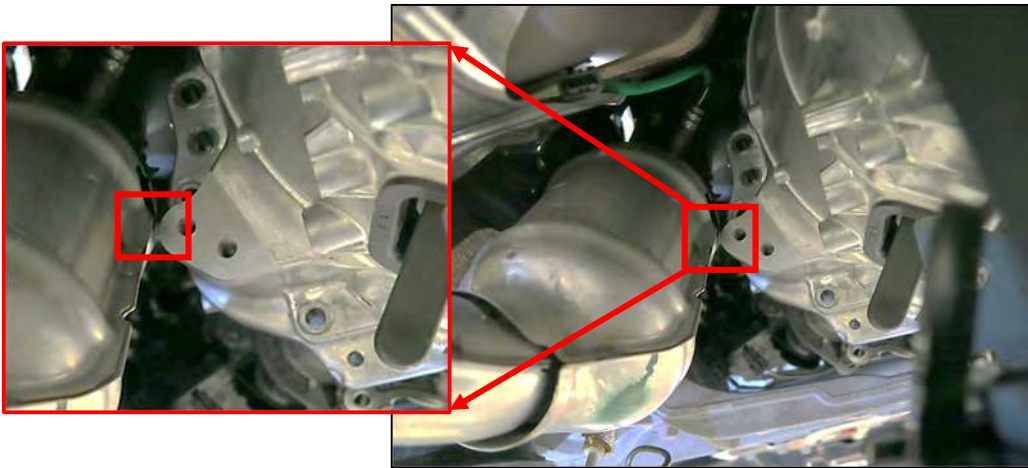

Figure 68
- Move the transmission toward the rear of the vehicle until the transmission bell housing is near the catalytic converter as shown in Figure 68